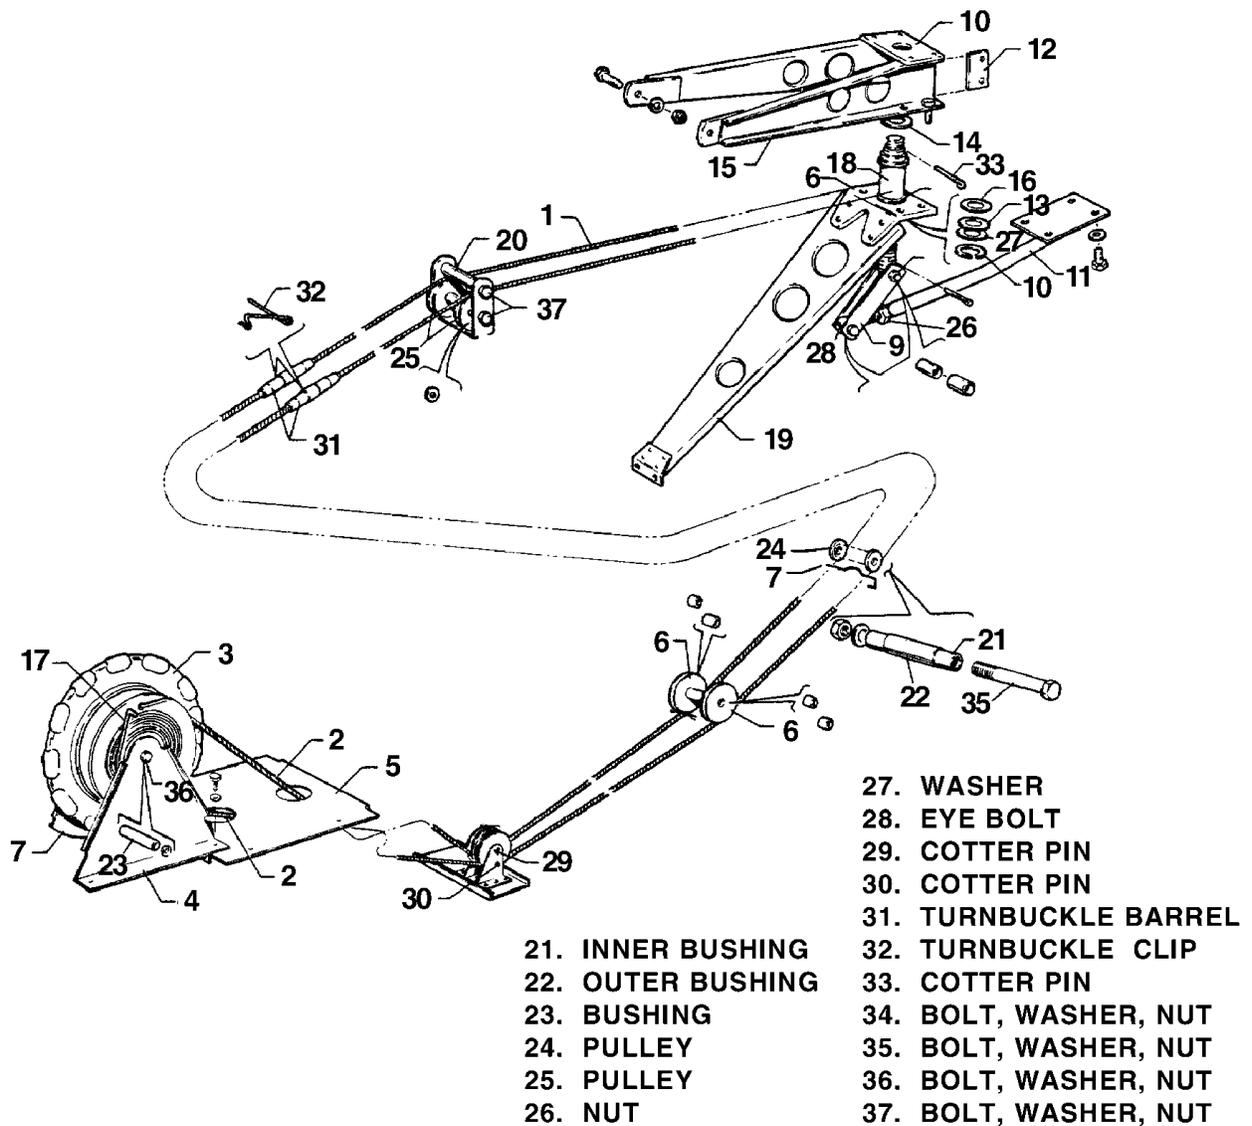

Figure 27-23. Stabilator Trim Controls
- 1. To Remove Forward Stabilator Trim Assembly (Refer to Figure 27-23.)
- 2. To Install Forward Stabilator Trim Assembly (Refer to Figure 27-23.)
- 3. To Remove Aft Stabilator Trim Controls (Refer to Figure 27-23.)
4. To Install Aft Stabilator Trim Controls (Refer to Figure 27-23)